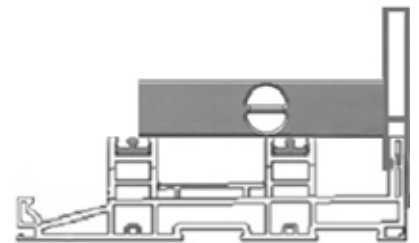

Figure 17
- 2. Locate** the frame jambs. If an add-on fin (Item 27) needs to be installed, locate the fin(s) and remove the frame jamb anchor plates (Item 2; Figure 17) closest to the exterior of the opening. Install the add-on fins in place of the anchor plates. Slide the fin into the frame head.
- Helpful Tip Use a short torpedo level and balance it across the frame sill to verify the sill is level from inside to outside (Figure 17). Use a plumb bob to make sure the frame head is in alignment with the sill. If the tracks at the frame sill and head are not aligned, panels may not roll correctly.